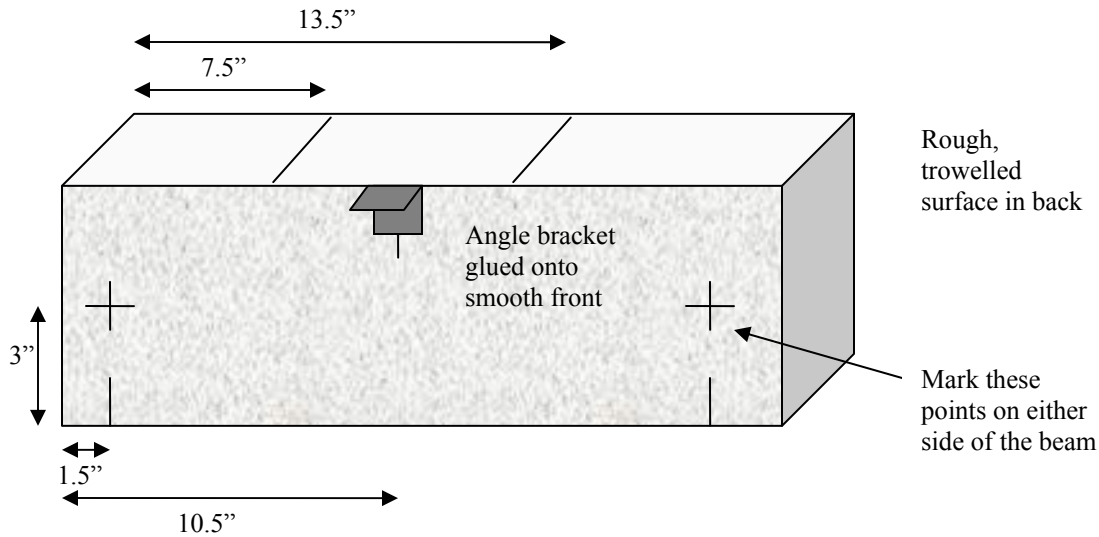

Figure 1. Suggested marking locations with dimensions in inches (1 inch = 25.4 mm).
- Mark the specimen: (see Figure 1)